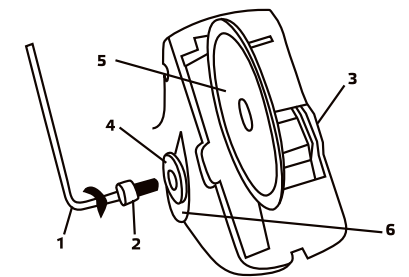

Fig. 4
Insert the 5 mm “U” spanner (11) into the hole (2) (See Fig. 4)